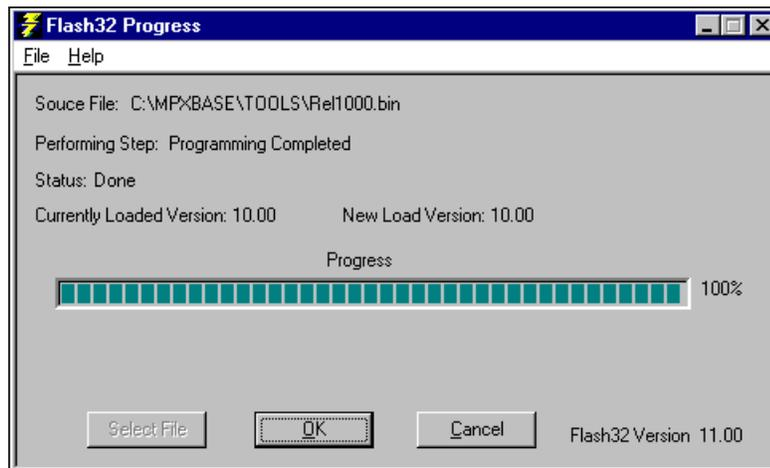

Figure 283. Flash32 Progress dialog box (Progress bar)
5. Tab to the Program button and press **Enter**. As the installation runs, the Progress indicator band displays the progress, as shown in Figure 283.